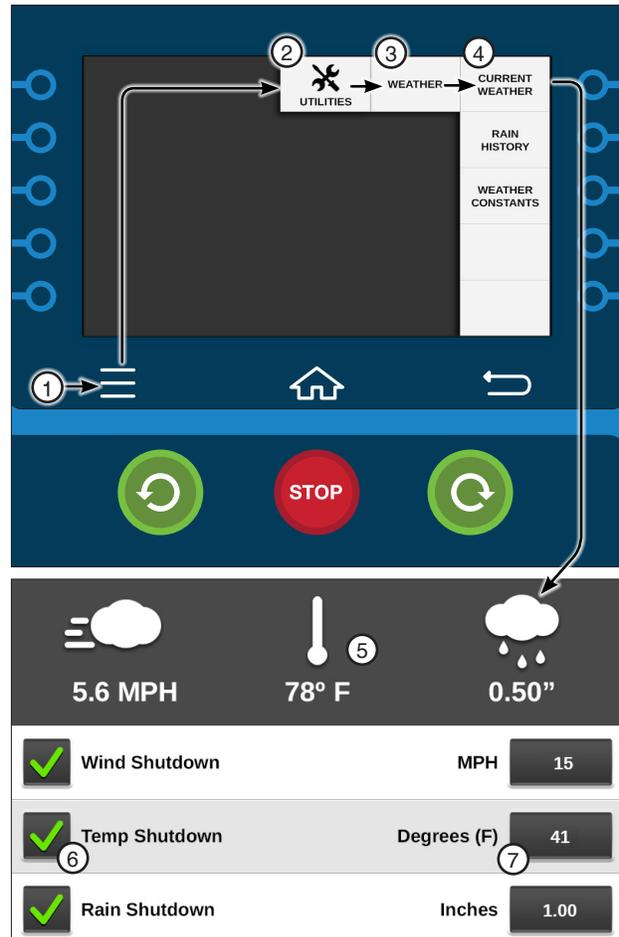

Figure 74-1 1. Menu 5. Temperature
1. Push **Menu**, **Utilities**, **Weather** and **Current Weather** to display the Current Weather screen. Refer to Figure 74-1.
Check the **Temperature Shutdown** checkbox to enable the temperature shutdown function and uncheck the checkbox to disable temperature shutdown function. Refer to Figure 74-1.